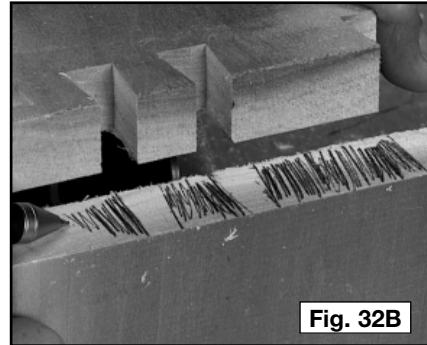

Fig. 32B
- Step 3** - Shade in the areas on the end of the pin board where the tails will be (Fig. 32B).